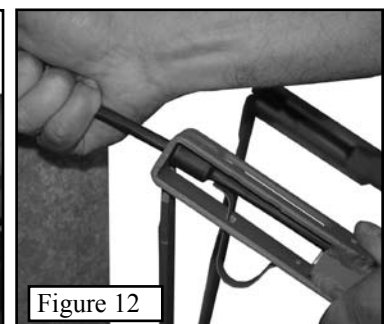

Figure 12
Step 3. Pull the cable towards the back of the tree and "seat" one of the cable stops against the back of the bracket, as shown in **Figure 12**. The QuickDraw cable spring will "lock" into place behind one of the cable stops.